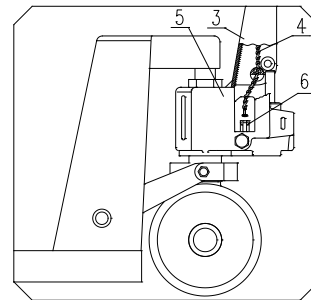

Fig. 2
- 3.4 See fig 2. Put the chain 4 of hand grip get across the middle hole of pin roll 1.
- 3.5 Take screw nut which is at the end of chain 4 and hitch the groove of lever board 6. See fig 2 and fig 4.